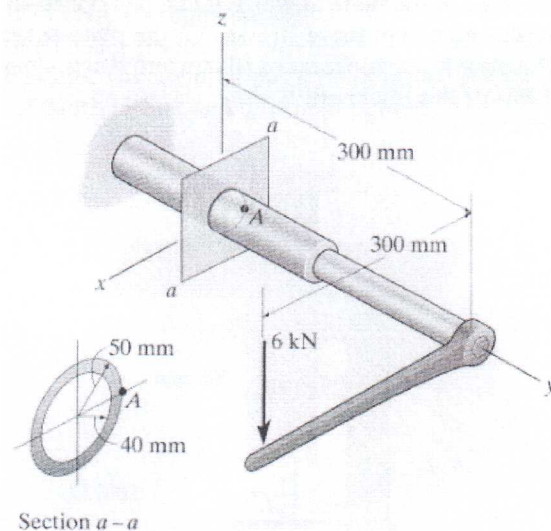

Figure 1.
- (1) Determine the state of stress at point A on the cross section of the pipe at section $a-a$ shown in Figure 1.